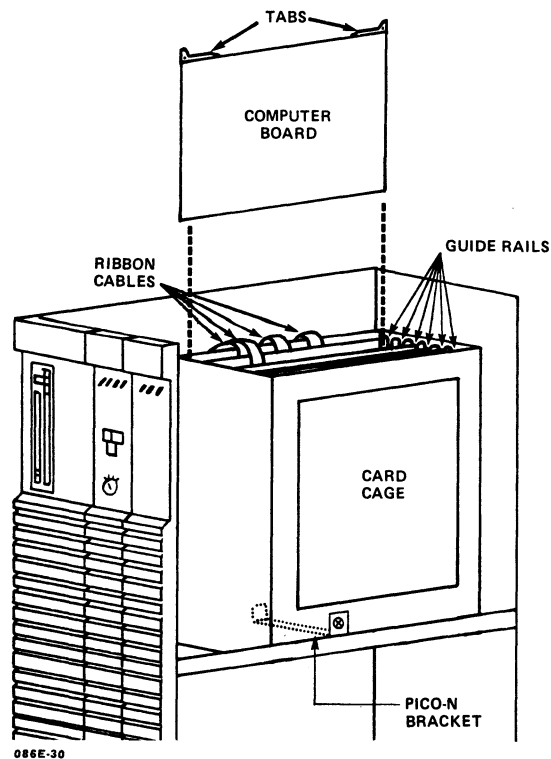

Figure 4-2. Removing Computer Boards from the Card Cage
4. Remove the computer boards, one at a time, from the card cage and check to ensure that all components on them are intact and firmly seated. Figure 4-2 illustrates removing the computer boards. For each board: